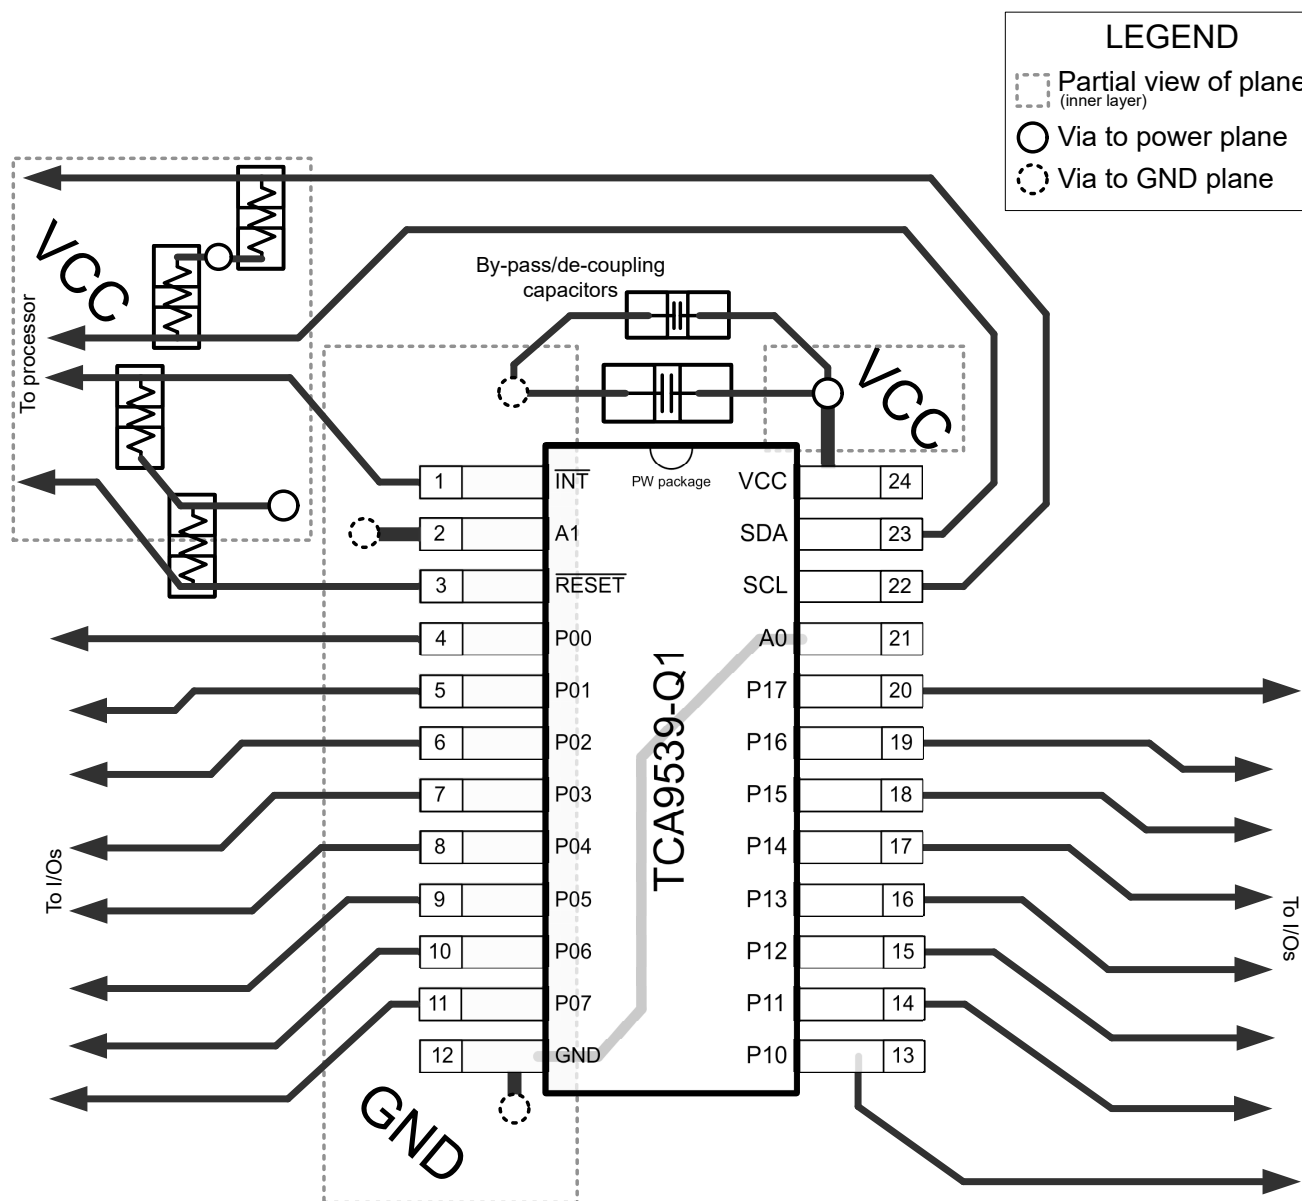

Figure 10-1. TCA9539-Q1 Layout
In all PCB layouts, it is a best practice to avoid right angles in signal traces, to fan out signal traces away from each other upon leaving the vicinity of an integrated circuit (IC), and to use thicker trace widths to carry higher amounts of current that commonly pass through power and ground traces. By-pass and de-coupling capacitors are commonly used to control the voltage on the V_{CC} pin, using a larger capacitor to provide additional power in the event of a short power supply glitch and a smaller capacitor to filter out high-frequency ripple. These capacitors must be placed as close to the TCA9539-Q1 as possible. These best practices are shown in Figure 10-1.
For the layout example provided in Figure 10-1, it would be possible to fabricate a PCB with only 2 layers by using the top layer for signal routing and the bottom layer as a split plane for power (V_{CC}) and ground (GND). However, a 4 layer board is preferable for boards with higher density signal routing. On a 4 layer PCB, it is common to route signals on the top and bottom layer, dedicate one internal layer to a ground plane, and dedicate the other internal layer to a power plane. In a board layout using planes or split planes for power and ground, vias are placed directly next to the surface mount component pad which must attach to V_{CC} or GND and the via is connected electrically to the internal layer or the other side of the board. Vias are also used when a signal trace needs to be routed to the opposite side of the board, but this technique is not demonstrated in Figure 10-1.